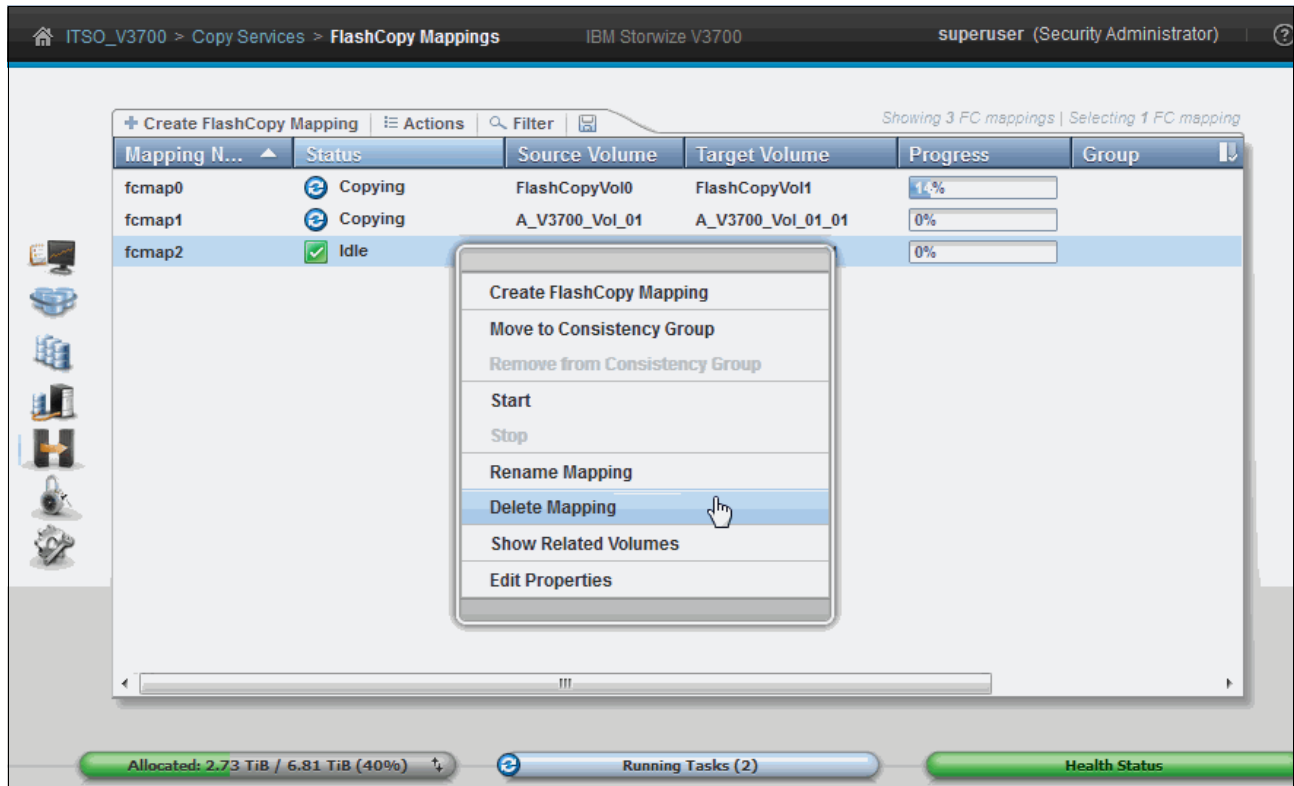

Figure 10-36 Select Delete Mapping
2. Click **Delete Mapping** in the **Actions** menu (as shown in Figure 10-36), or right-click the selected volume.